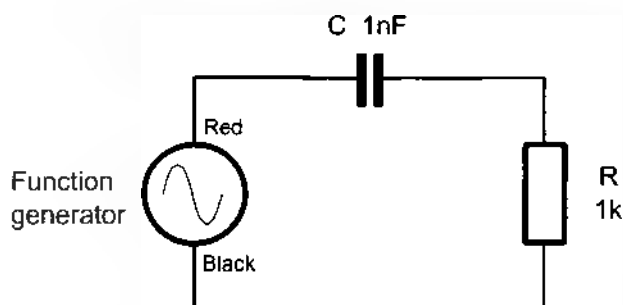

Figure 2
10. Wire the circuit of Figure 2.